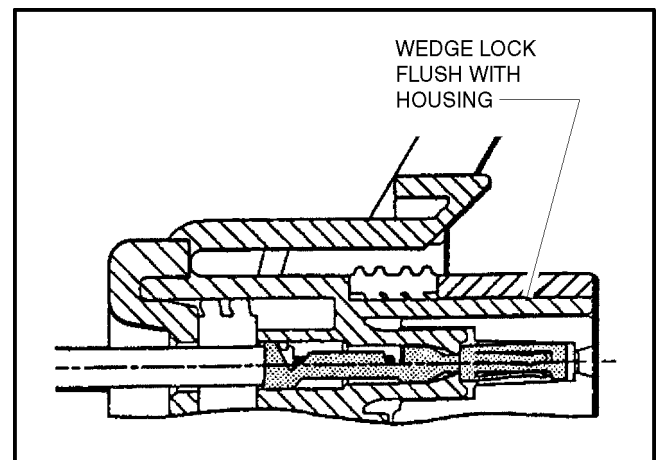

Figure 7-9. Connector Assembly Figure 4
4. Slide the wedge lock into the housing until it is flush with the housing (See Figure 7-9.).